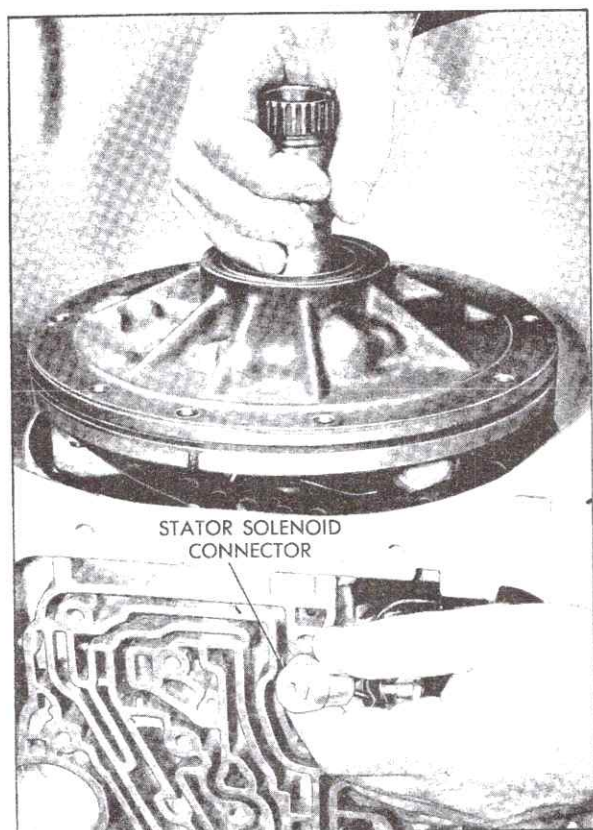

Fig. 7-100 Installing Pump Assembly
4. Guide stator wire on AA transmissions through case hole at pressure regulator, Fig. 7-100.
5. Install pump assembly in transmission case, Fig. 7-100. Do not remove slide hammer bolts until last two pump attaching screws are installed.